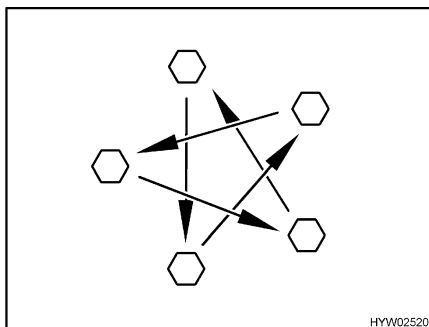

Fig. 162 Tighten the wheel nuts or wheel bolts cross-wise
- Check regularly that the wheel nuts or wheel bolts are firmly seated. Re-tighten the wheel nuts or wheel bolts of a changed wheel cross-wise (Fig. 162) after 50 km (30 miles).